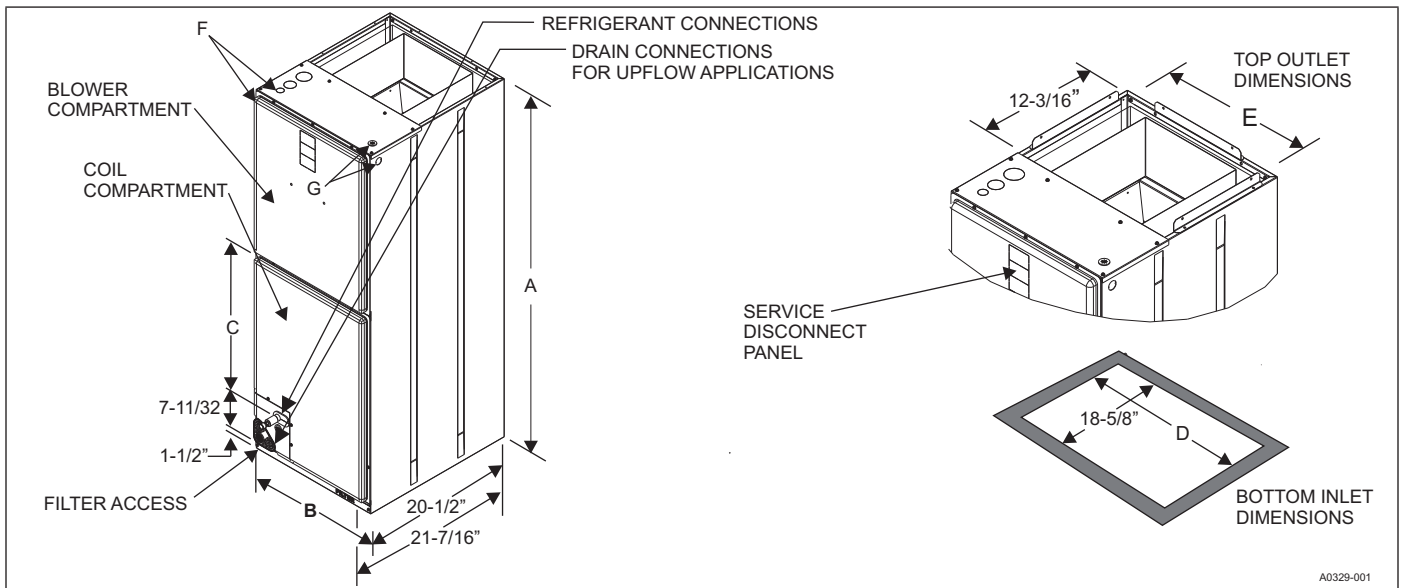

FIGURE 3: Dimensions & Duct Connection Dimensions
6. The unit rating plate displays the air handler model number. The unit dimensions for the supply air plenum are provided in Figure 3 and Table 1 of this Instruction Manual. The plenum must be installed according to the instructions.
1. The size of the unit should be based on an acceptable heat loss or gain calculation for the structure. The ACCA – Manual J or other approved methods may be used. Reference Figure 3 and Table 1.